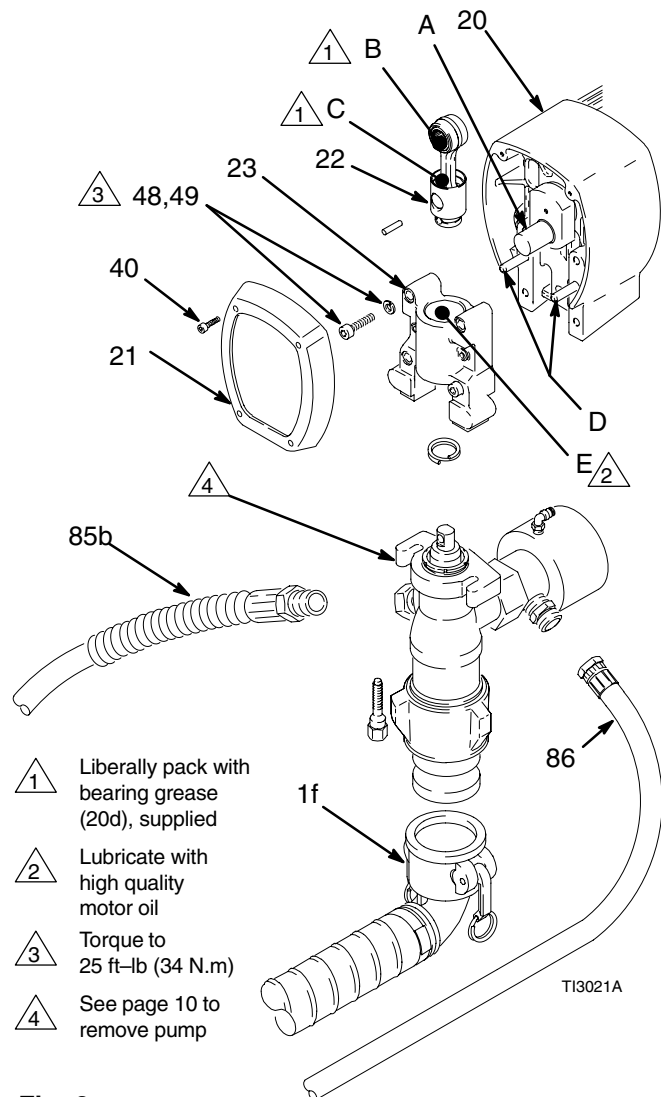

Fig. 8
1. Fig. 8. Perform steps 1–8 of **Displacement Pump, Removal**, page 10.
2. Remove four screws (40) and front cover (21).
3. Remove four screws (48) and lockwashers (49) from bearing housing (23).
4. Pull connecting rod assembly (22) and lightly tap lower rear of bearing housing (23) with a plastic mallet to loosen it from drive housing (20). Pull bearing housing and connecting rod assembly off drive housing.
5. Inspect crank (A) for excessive wear and replace drive housing, if necessary, page 15.